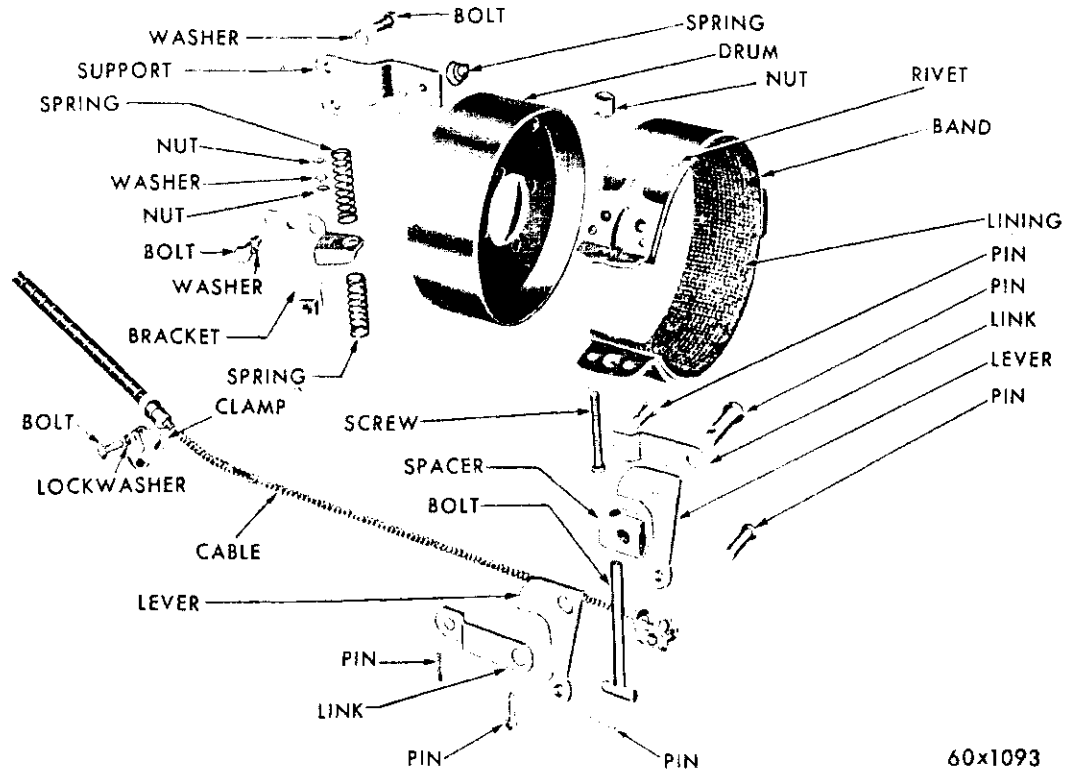

Fig. 1—External Contracting Brake (Disassembled View)
A steel enclosed brake cable connects the pedal and release handle assembly to the parking brake located on the rear of the transmission. All Chrysler Models equipped with the standard three speed transmission have a 7 inch external contracting parking brake (Fig. 1).
The external type parking brake consists of a brake drum bolted to the universal joint flange and an external contracting type band, mounted at the rear of the manual transmission (Fig. 1).
- (1) Remove the cotter pin, pivot pin and lever assembly (Fig. 1).
- (2) Remove the adjusting nut, bolt and springs.
- (3) Remove the guide screw lock nuts, guide screw and springs.
- (4) Remove the anchor screw locking wire and anchor screw.
- (5) Remove the band assembly from the drum and off of the propeller shaft.